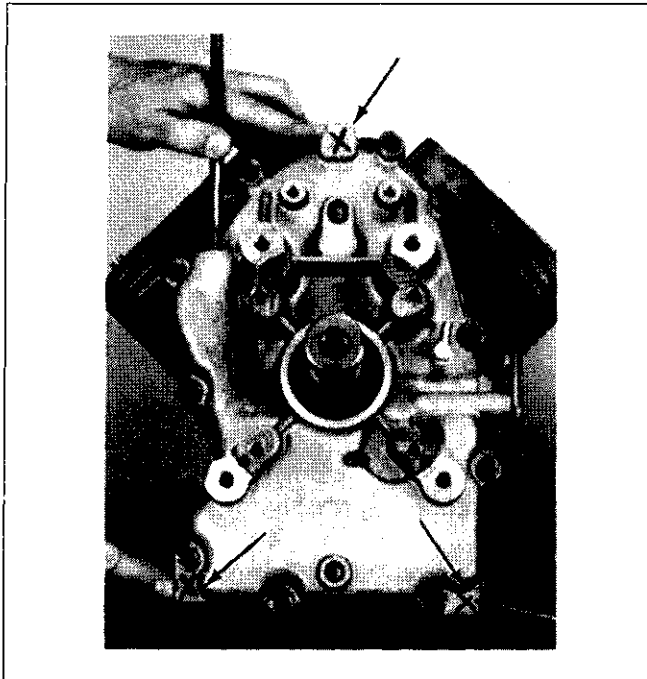

Figure 9-59. Location of Three Splitting Tabs.
2. Locate the three splitting tabs that are cast into the perimeter of the closure plate. Insert the drive end of a 1/2" breaker bar between the top splitting tab and the crankcase. Hold the handle horizontal and pull it toward you to break the RTV seal. If necessary, pry at the bottom tabs also. See Figure 9-59. Do not pry on the sealing surfaces as this could cause leaks. Carefully pull closure plate from crankcase.